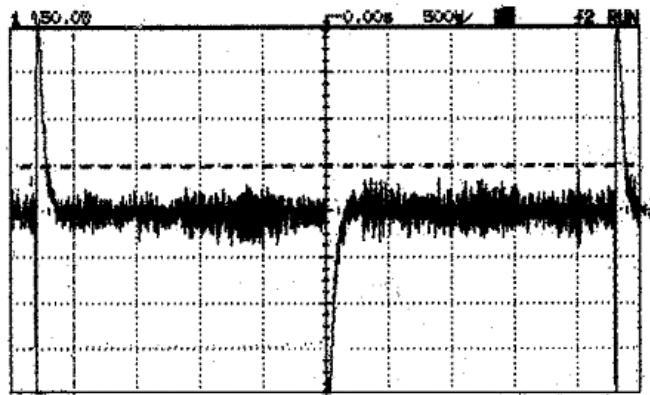

Figure 3-2 Example of an acceptable waveform
- 5 Adjust the black/white and brown/white wires until the waveform shown on the oscilloscope is similar to that shown in Figure 3-2. This shows an example of a High Gain output signal with acceptable sensor offset and spike balance settings.